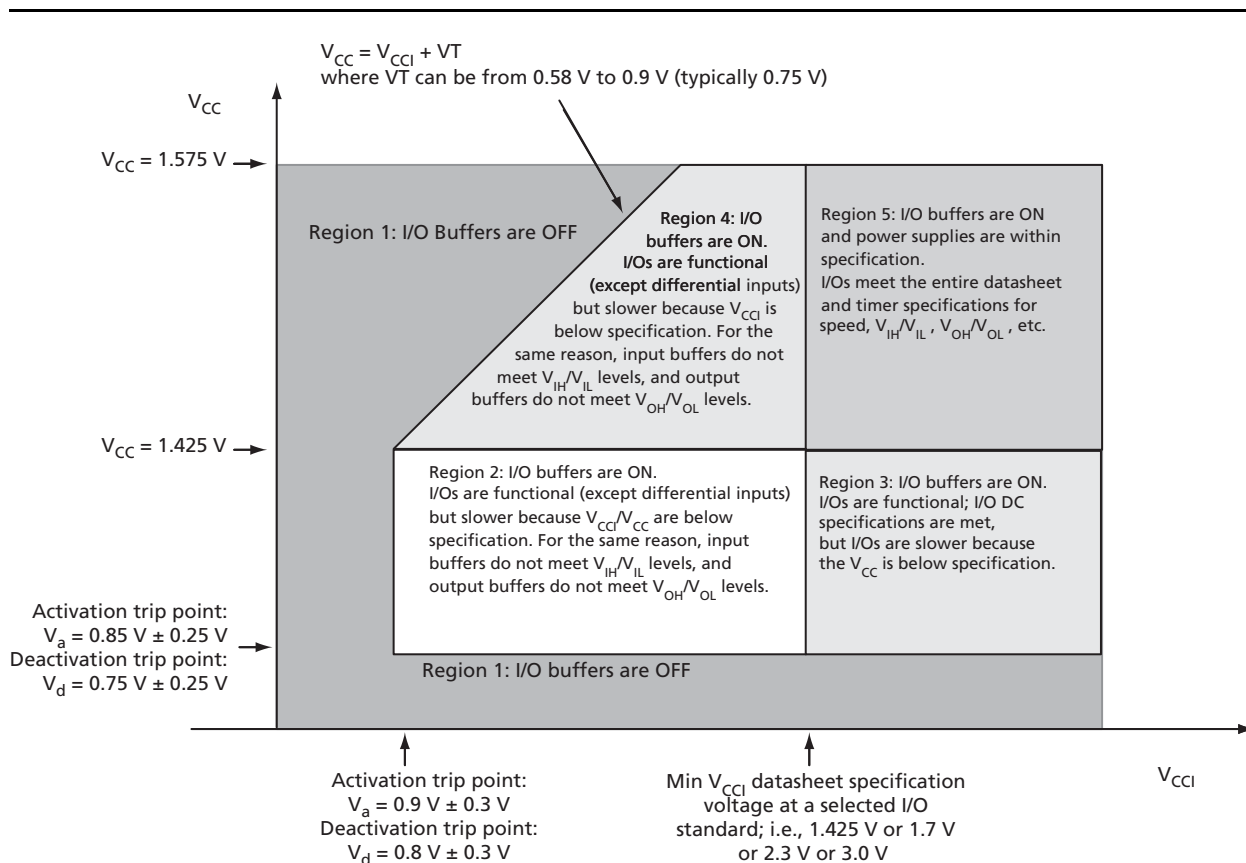

Figure 2-1 • I/O State as a Function of  $V_{CCI}$  and  $V_{CC}$  Voltage Levels
Sophisticated power-up management circuitry is designed into every ProASIC®3E device. These circuits ensure easy transition from the powered-off state to the powered-up state of the device. The many different supplies can power up in any sequence with minimized current spikes or surges. In addition, the I/O will be in a known state through the power-up sequence. The basic principle is shown in Figure 2-1 on page 2-4.
1.  $V_{CC}$  and  $V_{CCI}$  are above the minimum specified trip points (Figure 2-1 on page 2-4).
Actel recommends using monotonic power supplies or voltage regulators to ensure proper power-up behavior. Power ramp-up should be monotonic at least until  $V_{CC}$  and  $V_{CCPLXL}$  exceed brownout activation levels. The  $V_{CC}$  activation level is specified as 1.1 V worst-case (see Figure 2-1 on page 2-4 for more details).